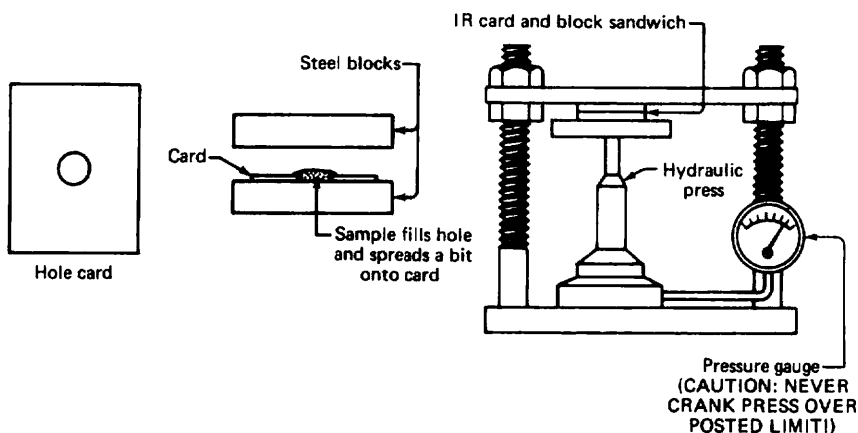
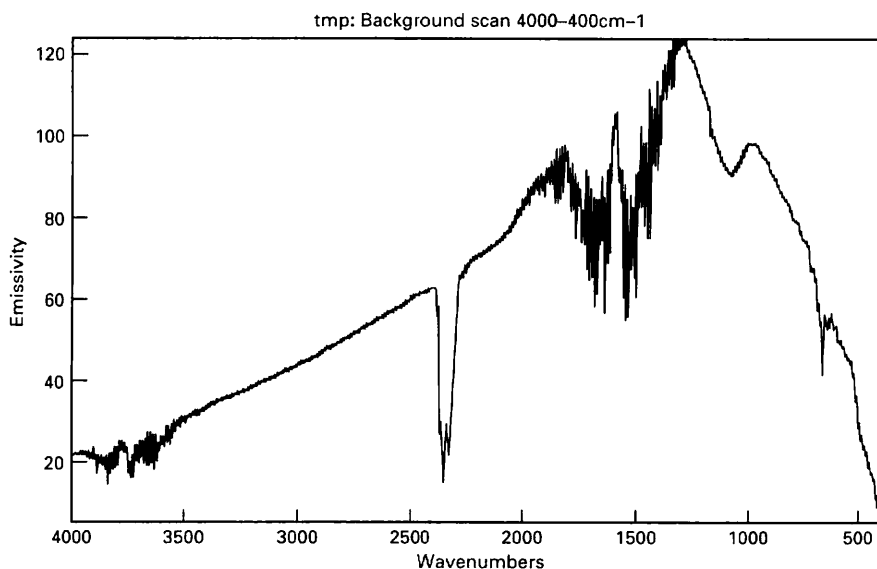

Fig. 156 KBr disks by hydraulic press.
Fig. 166 FTIR background spectrum. Note H_2O and CO_2 bands.
6. Cover the card, which now has your sample on it, with the second metal block (Fig. 156).
1. ***FTIR is a single-beam instrument***. So you must collect a background spectrum (Figure 166) before you do your sample. The computer program will subtract the background from the background-and-sample and produce the usual IR spectrum. What's in a background spectrum? Everything that's not the sample. For a KBr disk spectrum, the empty press (Figure 155) or an empty card (Figure 156) gets included in the background spectrum. For a salt plate spectrum (Figure 152), clean salt plates in the holder is the background. And for a solution-cell spectrum, the cell with pure solvent is the background. Why? For many cells and holder combinations, the aperture is smaller, or the salt plates absorb a bit, or the solvent absorbs a lot, and these must be compensated for.